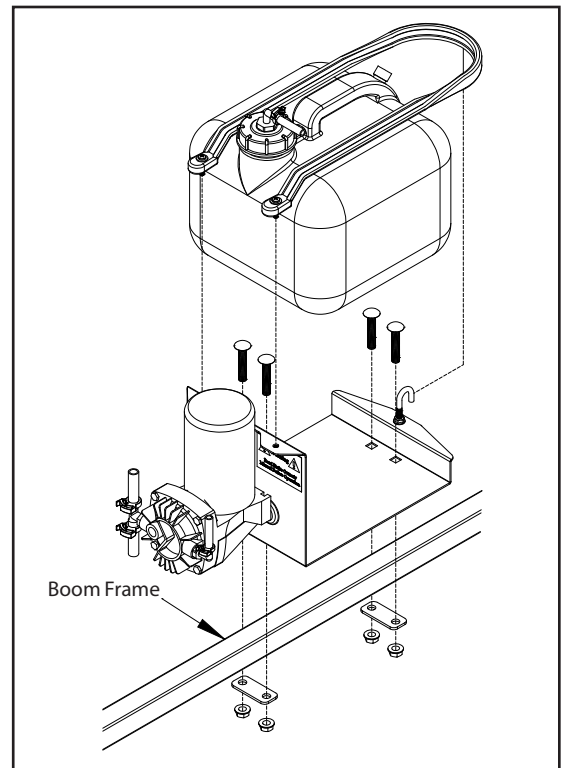

Figure 2: Turf Foam Marker Unit Mounting
1. If mounting the turf foam marker on a CropCare[®] sprayer, place it on the center of the boom frame (Figure 2). Attach the turf foam marker by using the included 3/8" carriage bolts to clamp the turf foam marker frame around the main boom tube. The unit may be mounted in either direction on the boom.